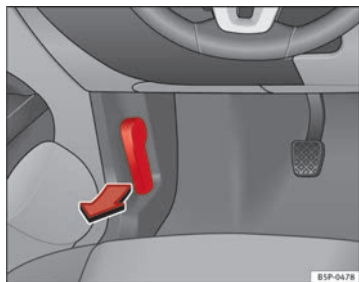

Fig. 165 Detail of foot-well area on driver side: lever for unlocking the bonnet.
- To release the bonnet, pull the lever under the dash panel ⇒ fig. 165 in the direction indicated (arrow). The bonnet will be released by a spring action ⇒ ⚠.